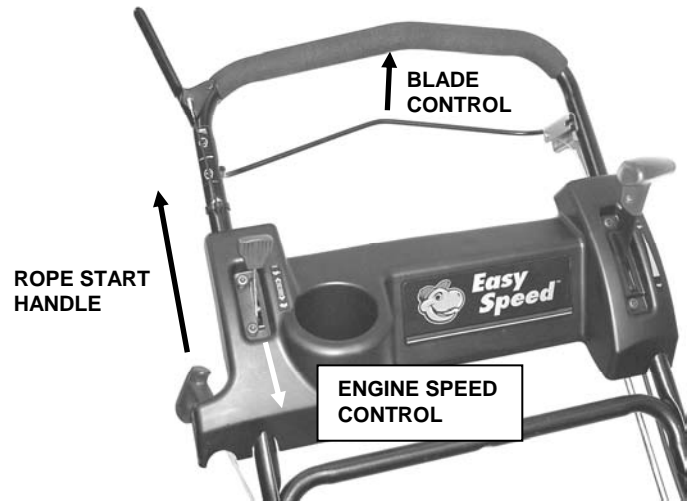

FIGURE 2.3
1. Move engine speed control past "Fast" (Rabbit) position to 'CHOKE'. See Figure 2.3 and "FAMILIARIZATION".